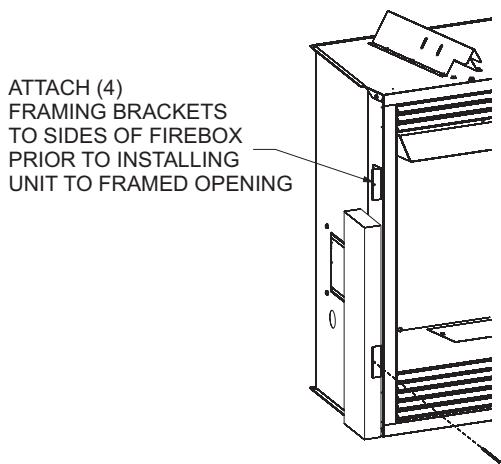

Figure 8
Place firebox in framing opening. Use the four (4) framing brackets provided on the firebox to attach firebox to framing. Different hole locations can be used for finishing materials with thicknesses of 3/8", 1/2" and 3/4". Attach these materials with screws provided, two (2) per framing bracket. See **Figure 8**.